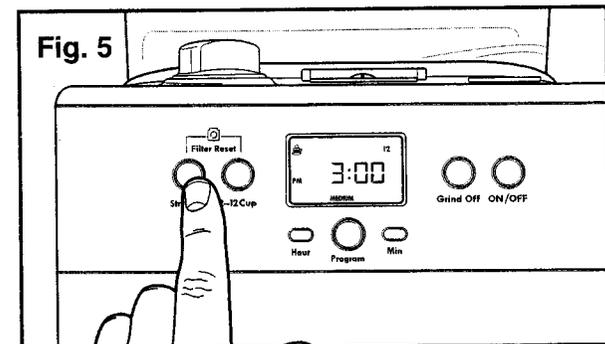

Fig. 5
8. To select the strength of the coffee, press the Strength button until the desired strength (mild, medium, strong) is highlighted in the LCD display window (see Fig. 5).